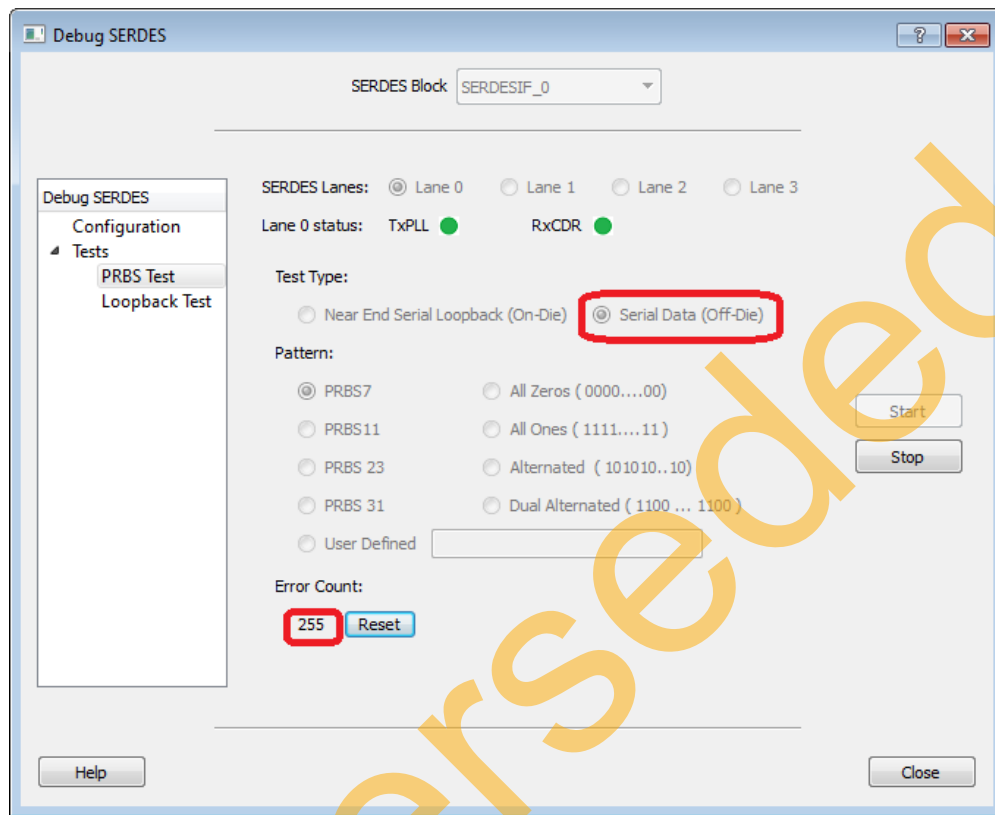

Figure 26 • Sending Serial Tx Data Off-Die
4. Stop the test and change the Test Type to **Serial Data (Off-Die)**. Restart and observe the Lane 0 error counter. This is due to the fact that the data is no longer looping between Tx and Rx. Lane 0 is not looped together on the PCB. In this case, the error count will increment up to the maximum 255, as shown in Figure 26.